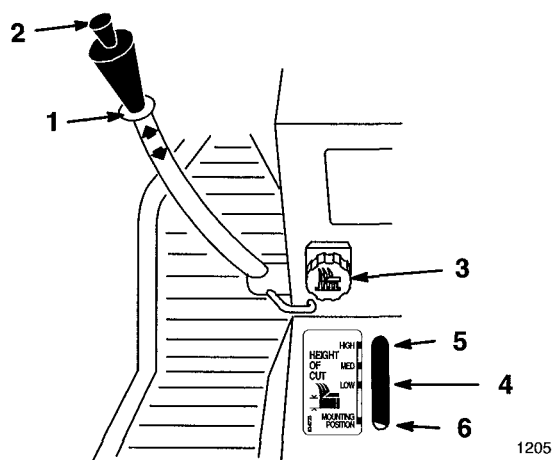

Figure 10
The attachment lift lever (Fig. 10) is used to raise and lower various attachments.
The Dial-A-Height control (Fig. 10) is used to limit the downward travel of the attachment. The Dial-A-Height knob is rotated to change the location of this stop, up or down.
1. Raise the attachment lift lever: Refer to Raising Attachments. In the raised, position the Dial-A-Height knob (Fig. 10) can be rotated to change the stop location. Turn right to raise and left to lower the height of the attachment.
2. The Dial-A-Height indicator (Fig. 10) will show the change, high to low, in attachment lift height as adjustment is made.